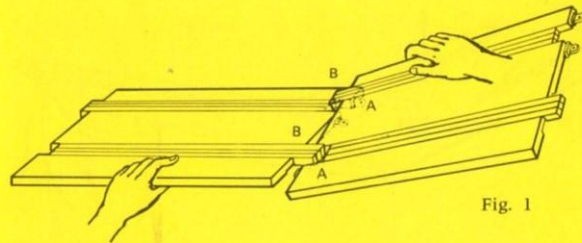

Fig. 1
- 1 Take the two pieces of track as above : the left half resting on the table (or on the ground), the other half inclined at 45°, so that the two notches A come below the two catches B (see Fig. 1).